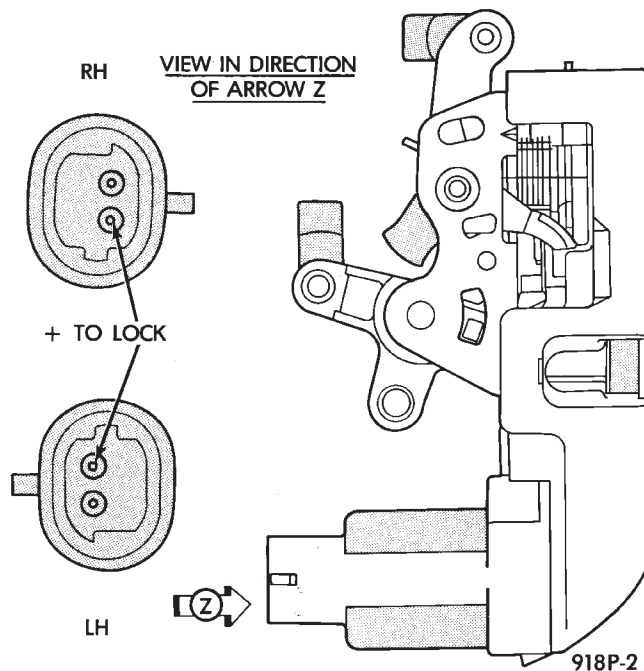

Fig. 2 Door Lock Motor
pin of the lock motor and a ground wire to the other pin (Fig. 2). To unlock the door reverse the wire connections at the motor pin terminals. If these results are NOT obtained, replace the motor.
- (1) Remove door trim panel, refer to Group 23, Body for removal procedures.
- (2) Disconnect motor linkage at the latch/lock motor (Fig. 2).
- (3) Disconnect motor wire connector.
- (4) Remove latch/lock assembly attaching screws and remove assembly.